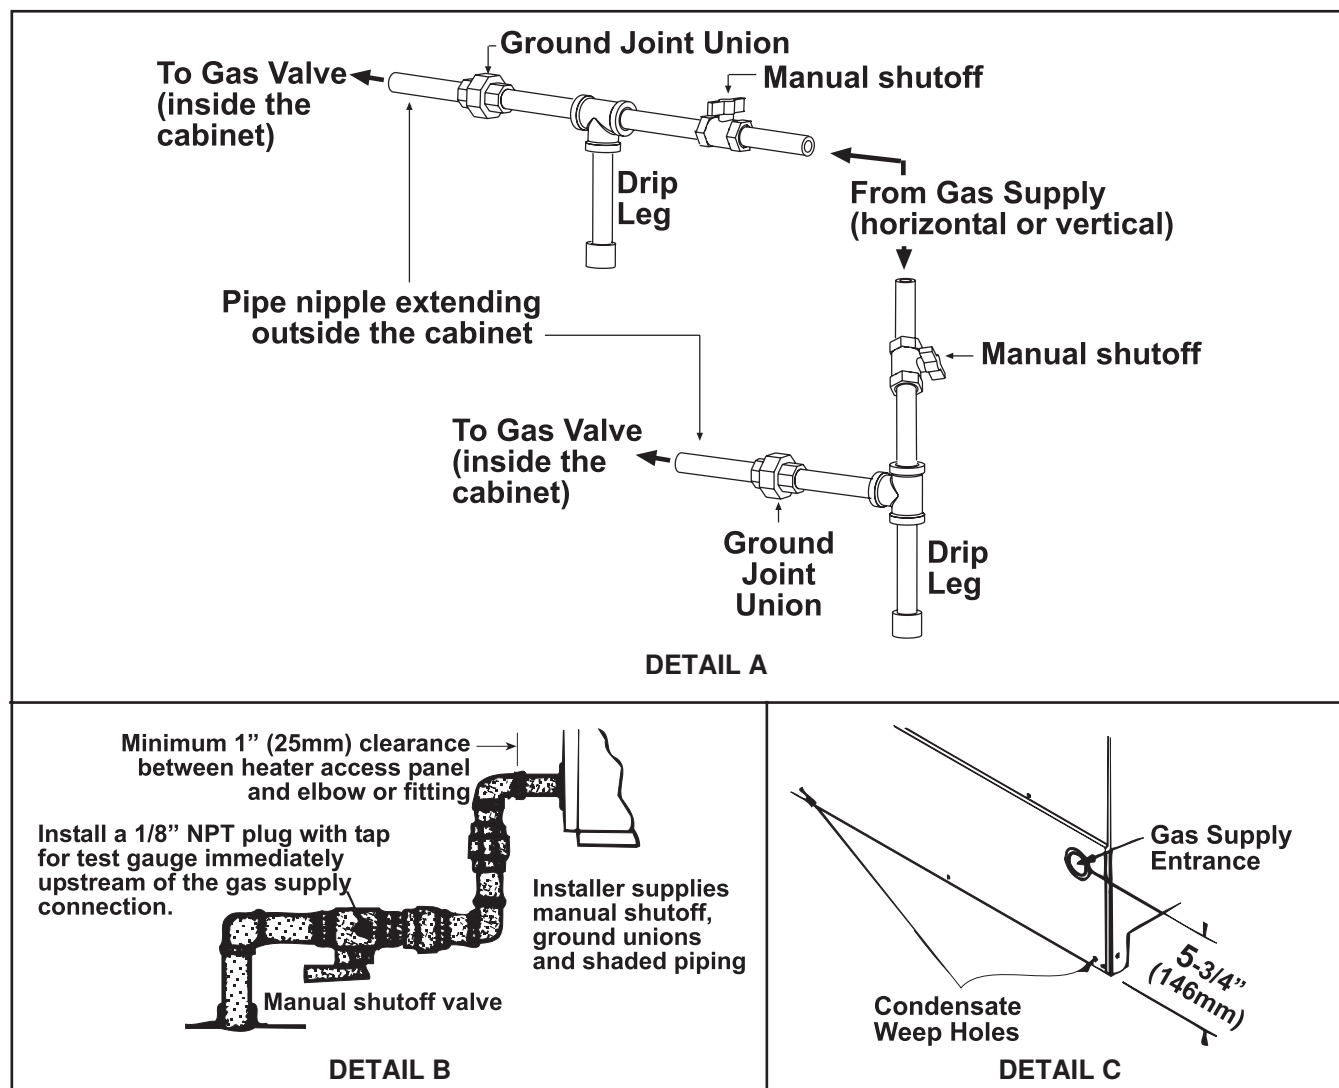

Figure 12. Gas Connections
- Install a ground joint union and manual shutoff valve upstream of the unit control system. The 1/8-inch plugged tapping in the shutoff valve provides connection for the supply line pressure test gauge. The *National Fuel Gas Code* requires the installation of a trap with a minimum 3-inch drip leg. Local codes may require a longer drip leg, typically 6-inch (see Figure 12, DETAIL A).
- Gas connection location and requirements are shown in Figure 12, DETAIL B.
- Install the gas supply piping so that when the union is disconnected, the supply pipe will not interfere with the removal of the burner rack (see Figure 12, DETAIL C). The burner rack slides out of the control side of the furnace.